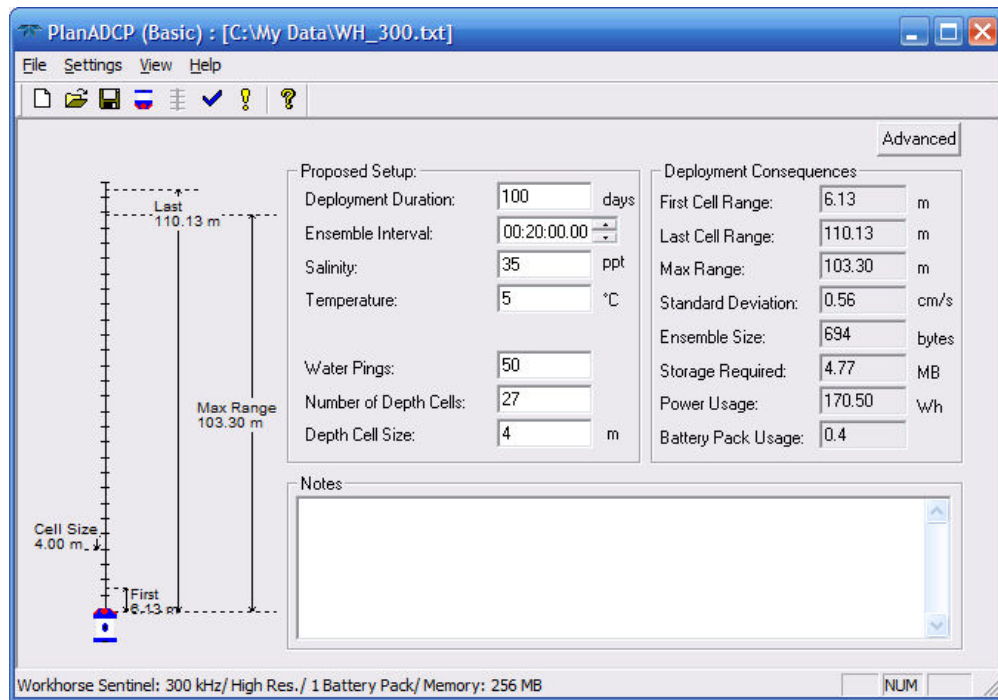

Figure 33. Basic Screen (No Bottom Track)
- n. The *PlanADCP* (Basic) Screen opens using the settings you selected with the wizard (see Figure 33, page 30).
On the *PlanADCP* (Basic) Screen (see Figure 33, page 30), click the **Advanced** button to bring up the **Advanced** setting screen.